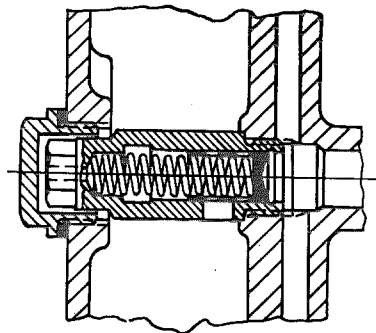

Figure 18-3/1
1. Unscrew screw plug including seal ring. Then unscrew the oil pressure relief valve (6 atm.) situated on the upper longitudinal oil duct (see Figure 18-3/1).